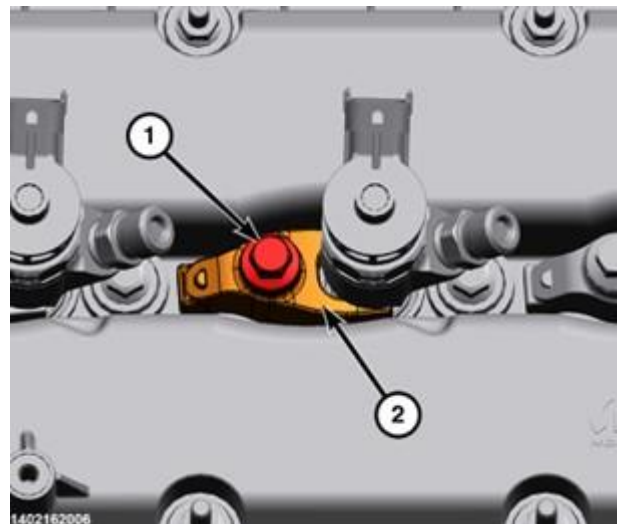

Figure 149– Fuel Injector Bolt and Clamp
- 95. Install the fuel injector clamp (2) and tighten the bolt (1) to 33 N-m (24 ft. lbs.). Repeat for all injectors (Figure 149).